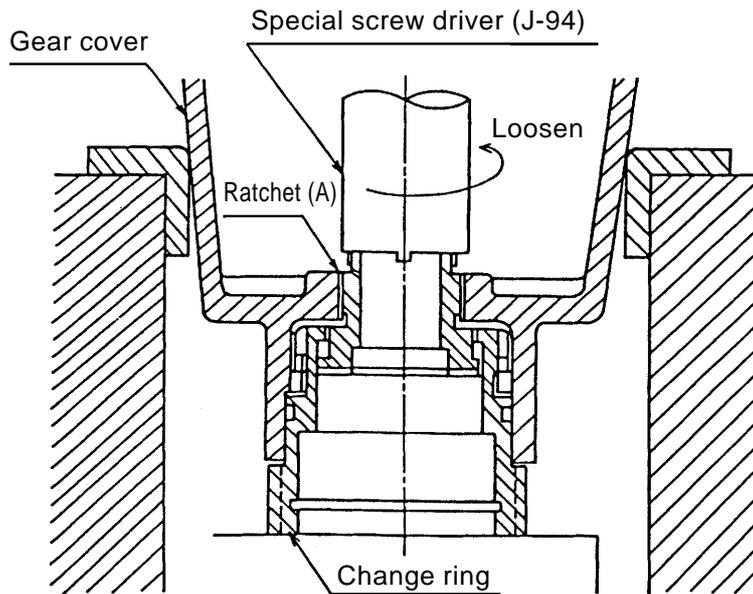

Fig. 6
(4) Remove Ratchet (A)
Since Ratchet (A) is secured to the Gear Cover [13] by an M20 left-hand-threaded screw, apply a J-94 special screwdriver to the groove on the side opposite the ratchet threaded portion, as shown Fig. 6. By turning the screwdriver counterclockwise, the left-hand-threaded screw is loosened. When securing the Gear Cover, be careful not to damage it.